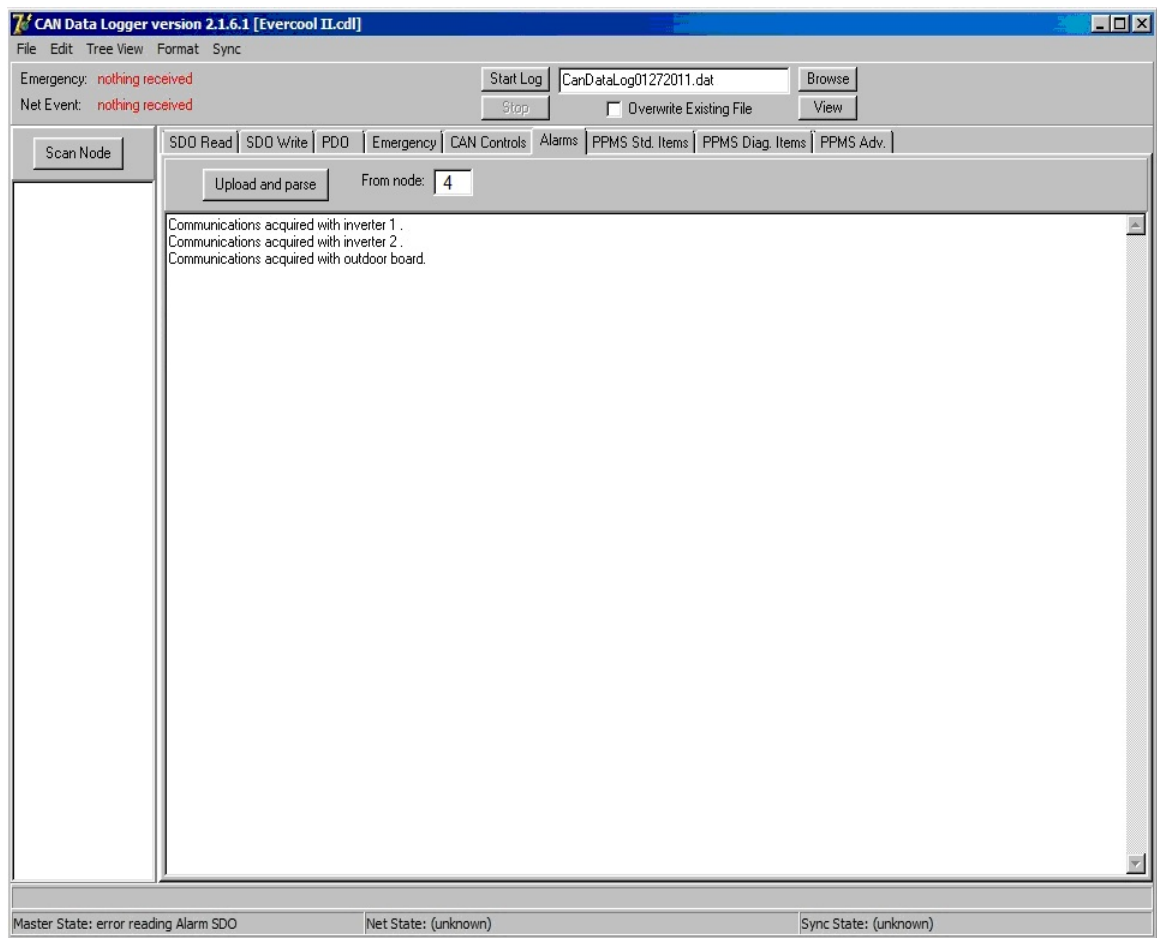

Figure 2. Typical CAN Data Logger Alarms Tab upon power up
- Click the Alarms tabs and select node 4, and press “Upload and Parse” button to check if any messages appear. Typically you might see the following three messages shown in Figure 2.